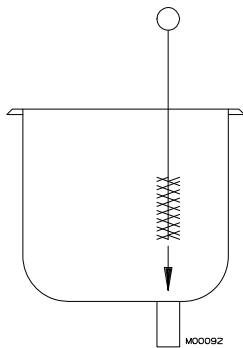

Figure 8-9 Clean hopper and mix feed port
a. the hoppers and the mix feed tubes from the hopper to the cylinders. (figure 8-9).